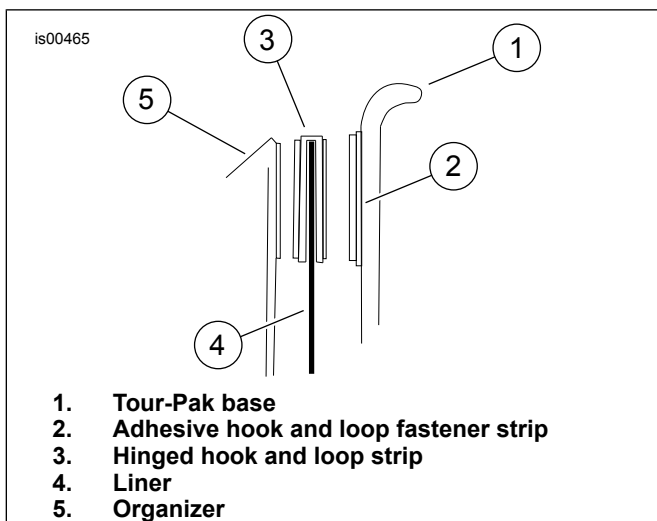
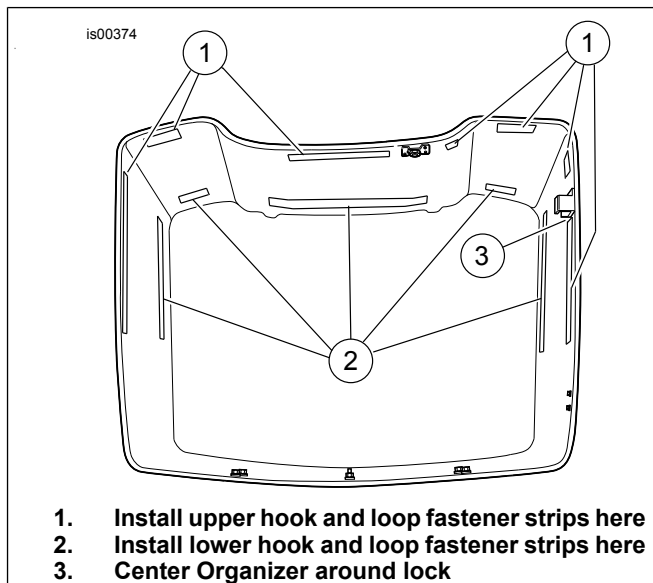

Figure 1. Hinged Strip Location
Figure 2. Wall Organizer Installation
3. See Figure 1 and Figure 2. Remove the hook and loop fastener strips from the hinged hook and loop strips. Remove the paper backing and firmly press the fastener strips into the locations (1) shown in Figure 2. The fastener strips should be located approximately 1/8 in. (3 mm) below the edge of the Tour-Pak base.
4. See Figure 1. Bend the hinged hook and loop strips (3) into shape as shown. Attach the hinged strips onto the fastener strips (2) installed in Step 3.
5. Reinstall the liner removed in Step 1. The hinged strips (3) will go over the top of the liner (4) as shown in Figure 1.
6. See Figure 1. Attach the organizer (5) to the hinged strips (3). Adjust the organizer's lock cut out so that it is centered around the lock, and press the hook side of the hook and loop strips on the bottom of the organizer into place on the liner. The hook side will attach to the liner.
5. See Figure 2. Remove the paper backing and firmly press the fastener strips into the upper locations (1) shown in Figure 2. The upper set of fastener strips should be located approximately 1/8 in (3 mm) below the edge of the Tour-Pak base.
7. Press organizer into place on the upper fastener strips (1) starting at the lock location. Adjust the organizer's lock cut out so that it is centered around the lock. Press the lower edge of the organizer to attach the lower hook and loop strips onto the Tour-Pak. Firmly press the hook and loop strips into place.